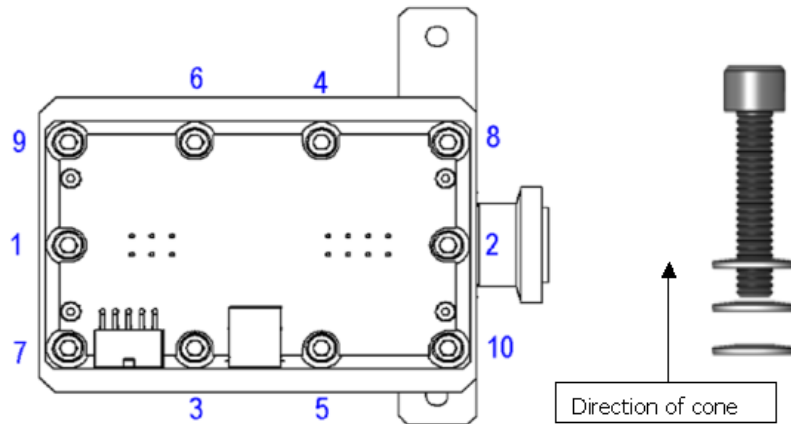

Figure 13: Direction of Cone
8. Use an M5 allen wrench to loosen screws (item 1) and carefully remove the spectrometer header from the body. The vacuum system vents to atmosphere as the screws are loosened. Retain the socket head cap screws (item 1) and the Belleville washers (item 2). See line item 21 for correct orientation of the Belleville washers (Figure 13: Direction of Cone).
27. Insert a screw with three Belleville washers into each hole and finger tighten (Figure 13: Direction of Cone).
28. Following the pattern shown in Figure 13: Direction of Cone, torque screws to 45 in-lbs (5.0 N-m).
30. Wait a minimum of five minutes then torque the screws shown in pattern (Figure 13: Direction of Cone) to 90 in-lbs (10.2 N-m).